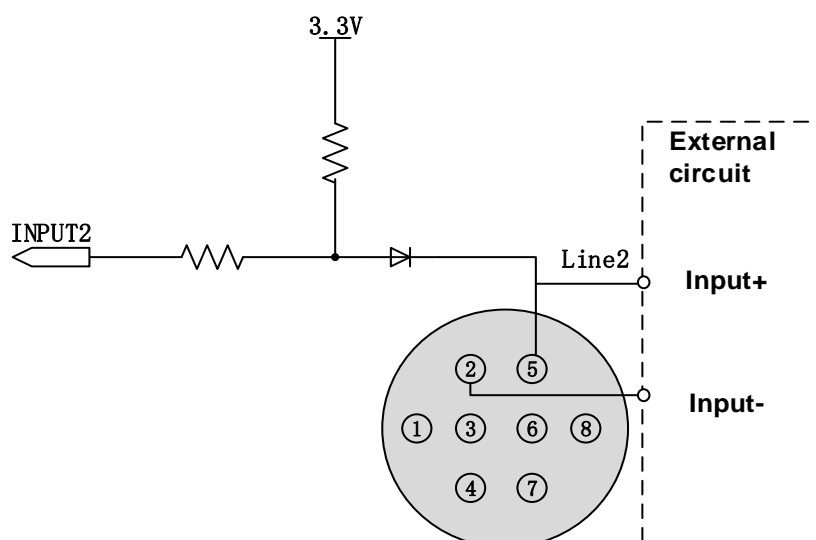

Figure 7-8 Internal equivalent circuit of camera when Line2 is configured as input
- When Line2/3 is configured as input, the internal equivalent circuit of camera is shown in Figure 7-8, taking Line2 as an example